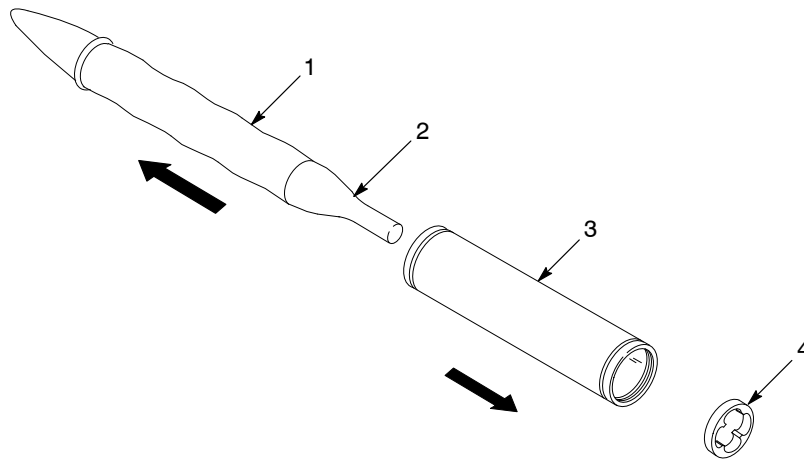

Figure 6-7 Disassembling the Inner/Outer Wear Sleeves
2. See Figure 6-7. Hold the outer wear sleeve (3) in your hand and push on the outlet distributor (2) to push the inner wear sleeve (1) out of the outer wear sleeve. Discard the outer wear sleeve and spacing ring (4).